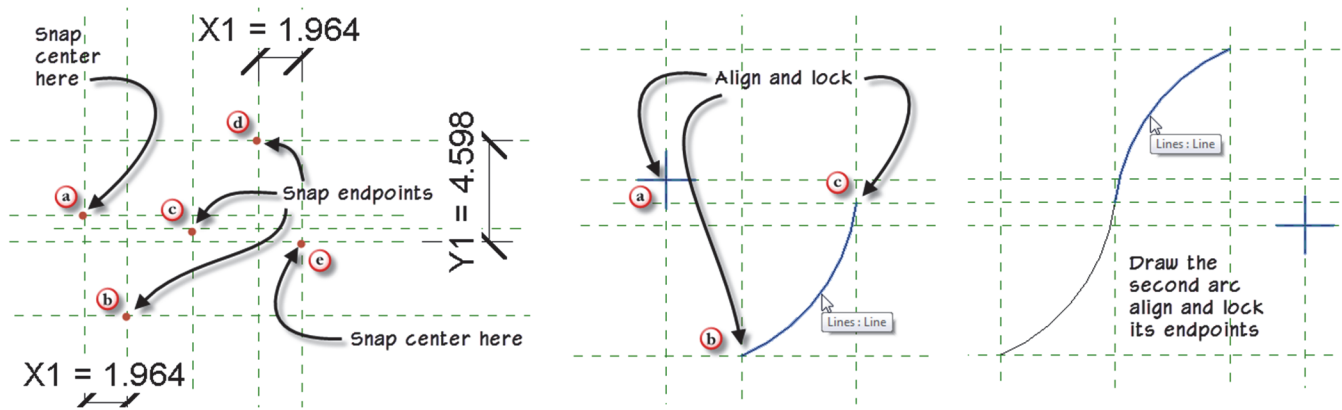

FIGURE 4.40
7. Snap the one endpoint to the intersection of the Center (Front/Back) and Center (Left/Right) reference planes and the other to the intersection at X Mid and Y Mid (see the small dots at locations **a**, **b** and **c** on the left side of Figure 4.40).
- ⇒ Align and lock the center point and each arc endpoint to the reference planes in both directions (6 alignments total) (see the middle of Figure 4.40).
- ⇒ Turn on the center mark and align and lock all points (see the right side of Figure 4.40).